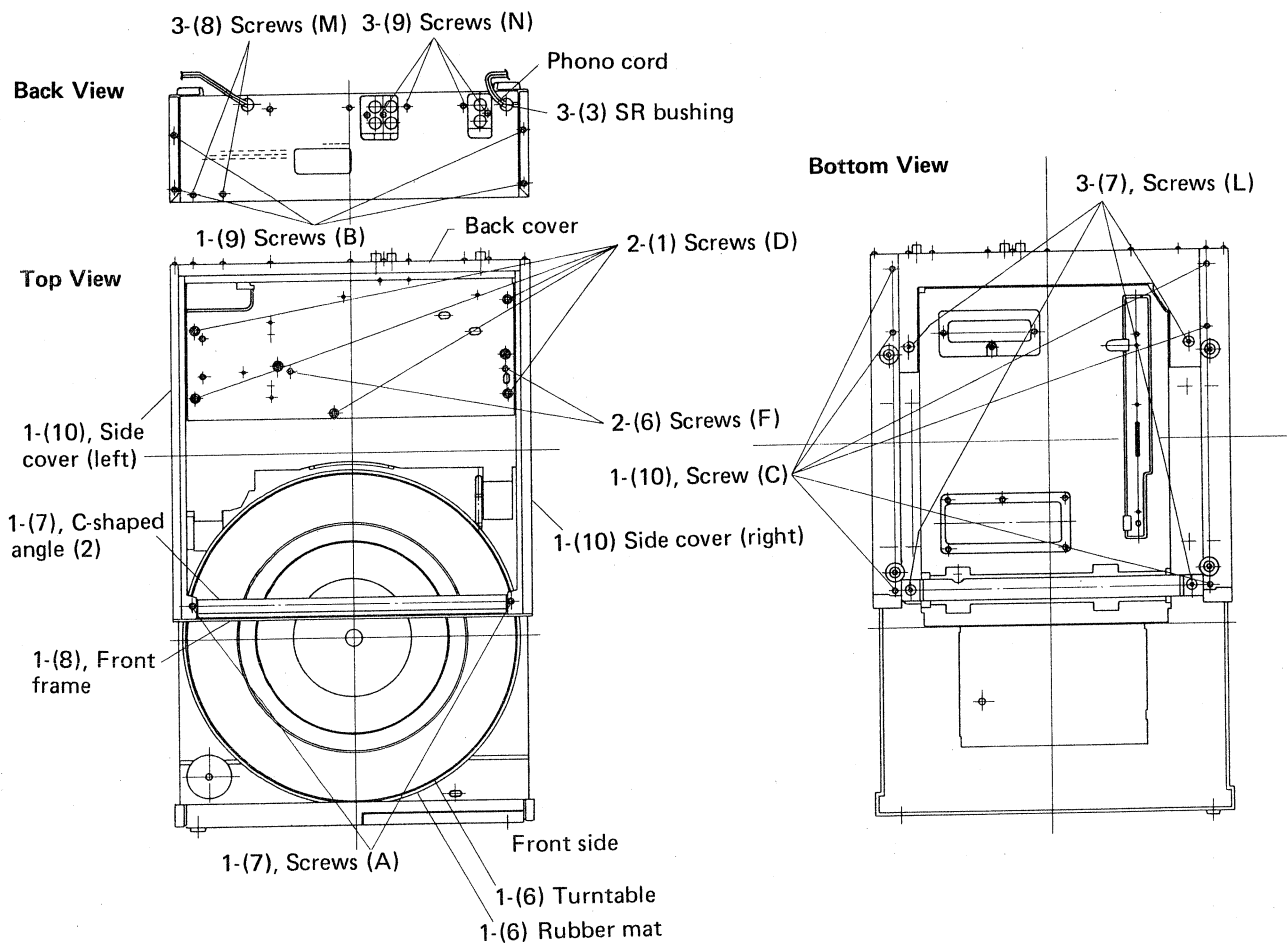
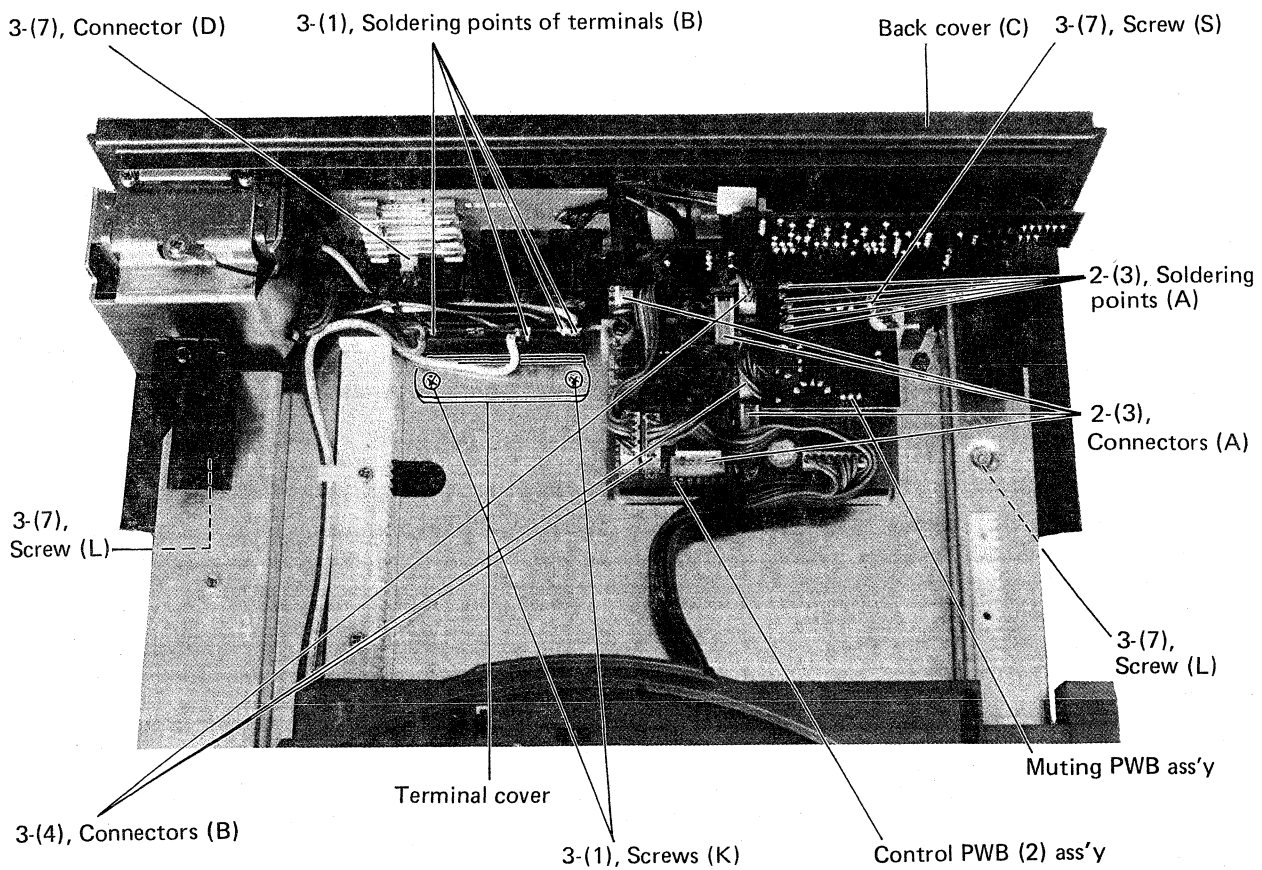

Fig. 1
Fig. 15
### 1. Disassembling Housings (See fig. 1)
- (1) Move tonearm base to the center of guide bar and then remove 5 pcs. of screws (D) from tonearm chassis. (See fig. 1, 2)
- 3. Remove 2 pcs. of screws (F) from bottom side of tonearm chassis. (See fig. 1, 2)
- (1) Unsolder 4 pcs. of terminals (B) and remove 2 pcs. of screws (K) from terminal cover. (See fig. 15)
- (2) Unsolder a grounding wire of back cover (C) from muting circuit ass'y. (See fig. 15)
- (3) Remove phono cord and SR bushing from back cover. (See fig. 1)
- (4) Disconnect connector (B) connected between back cover PWB and Control PWB (2). (See fig. 15)
- (5) Push down brush into cabinet.
- (6) Place turntable unit onto the table upside down.
- (7) Remove 2 pcs. of screws (L) from back cover so that the cover is disassembled. (See. fig. 1, 15)
- (9) Remove 4 pcs. of screws (N) from back cover so that power supply circuit (2) is dismantled. (See fig. 1, 9)